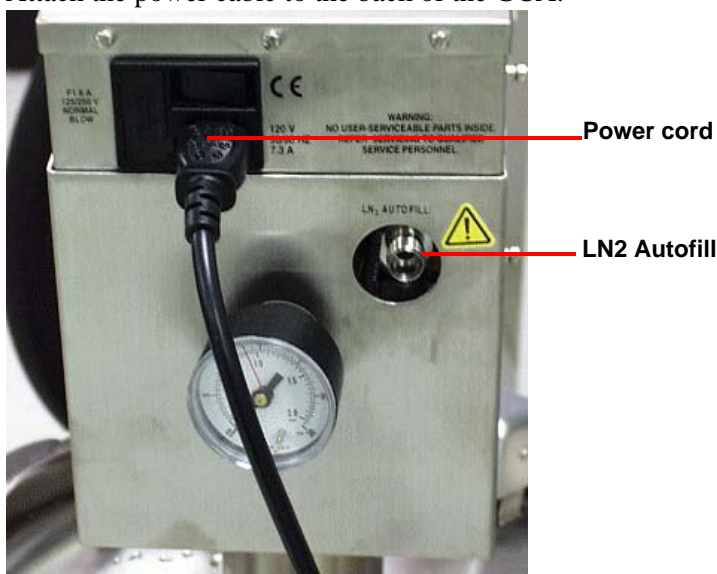

Figure 9 Power cord connected.
- 9 Attach the bulk storage feed hose to the GCA at the connection labeled **LN₂ Autofill** as shown in Figure 9 above. Use a wrench to tighten the connector.
- 11** Attach the bulk storage feed hose to the GCA at the connection labeled **LN₂ Autofill** as shown in Figure 9. Use a wrench to tighten the connector.